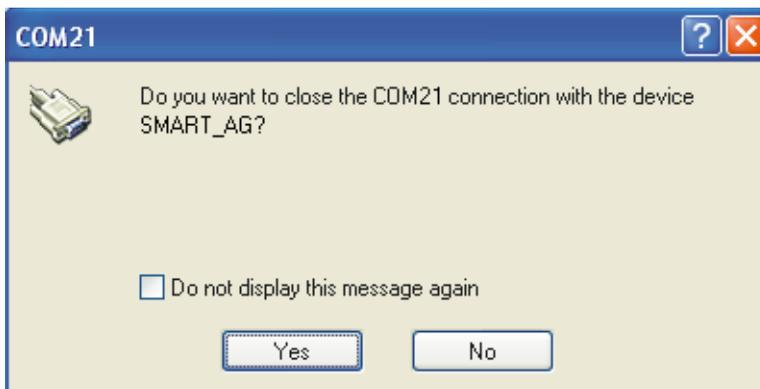

Figure 27: COM21 Disconnect?
4. Right-click on the *COM21* icon and select the *Disconnect Serial COM Port* option. A COM21 dialog box appears, see *Figure 27*, to confirm that you want to disconnect.